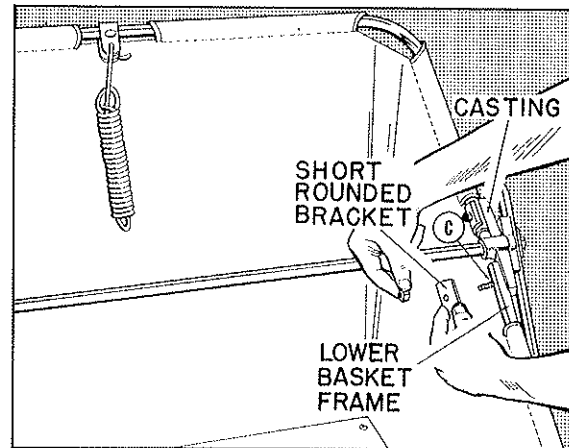

Fig. 2
5. Position lower basket frame onto aluminum casting at Point C, Fig. 2. Insert long bolt through hole and add short rounded bracket and nut. Assemble opposite side similarly and tighten nuts.
Brush Height Adjustment. Loosen large wing nut, Ref. No. 24, Fig. 2. To raise brushes to extreme height, pull sweeping unit forward as far as slots in brush adjustment brackets, Ref. No. 1, Fig. 2, will permit. To lower brushes to lowest position, push sweeping unit backward as far as slots will permit. Secure wing nut when desired brush adjustment is obtained.